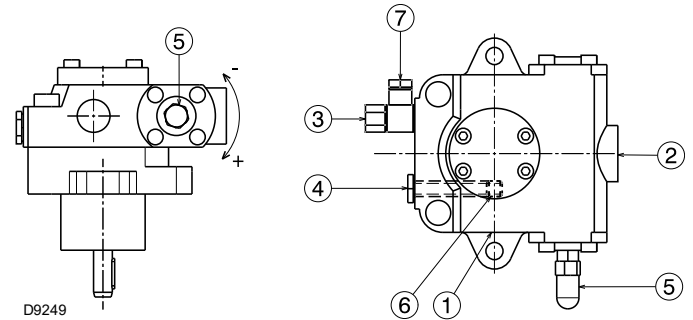

Fig. 22
They are installed on the burner with the by-pass closed by screw 6 (Fig. 22 on page 22).
- In order for the pump (Fig. 22) to self-prime, it is vital that the screw 4) of the pump be loosened to vent the air contained in the suction line.
Key (Fig. 22)
The a.m. operation is possible because the pump is already full of fuel when it leaves the factory. If the pump has been drained, fill it with fuel through the opening on the vacuumeter 4)(Fig. 22) prior to starting; otherwise, the pump will seize.